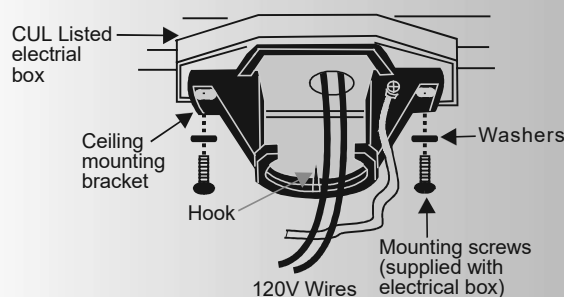

Fig. 6
Step 3. Secure the hanger bracket to the ceiling outlet box using screws and washers included with your outlet box. (Fig. 6)
2. Pass the 120-volt supply wires through the center hole in the ceiling hanger bracket as shown in Fig. 6.
3. Secure the hanger bracket to the ceiling outlet box with the screws and washers provided with your outlet box. (Fig. 6)